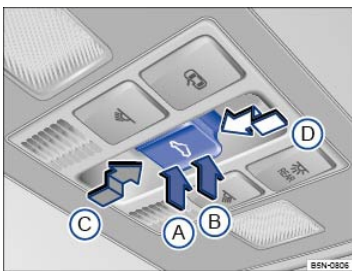

Fig. 70 In the headliner: Power sunroof switch.
The ☁ switch ⇒ Fig. 70 has two detents for each switch position (A, B, C, and D).
- Press the  button ⇒ Fig. 70 within about 5 seconds after the sunroof has stopped and hold it in the direction of the arrow  at the second detent until the power sunroof closes completely.